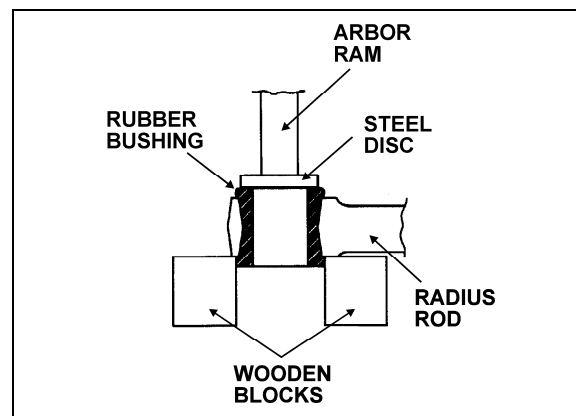

FIGURE 6: RADIUS ROD BUSHING REMOVAL
1. Safely support the radius rod as shown in figure 6.
2. Place a flat steel disc, slightly smaller than the outside diameter of the bushing (Fig. 6).